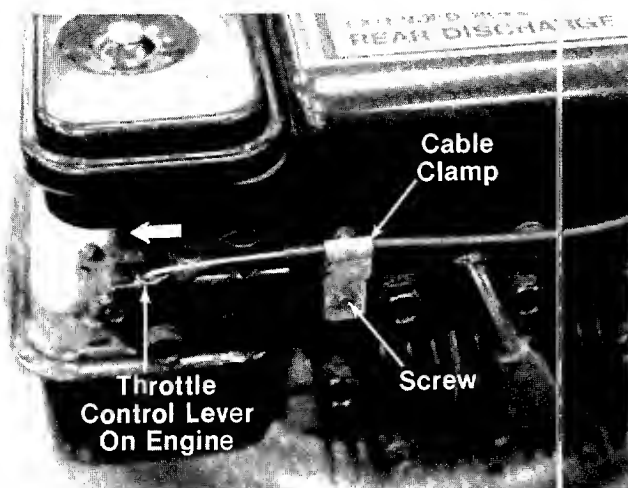

FIGURE 8.
12. Push the throttle control lever on the engine to the full open position (as far toward the outside of the unit as it will go) as shown in figure 8.
14. Remove the screw on the cable clamp shown in figure 8. Slip the control casing under the clamp. With the throttle lever on the engine still in the full open position, replace and tighten the screw to secure the throttle control cable.
1. Loosen, but do not remove, screw securing throttle control wire assembly at engine. See figure 8.